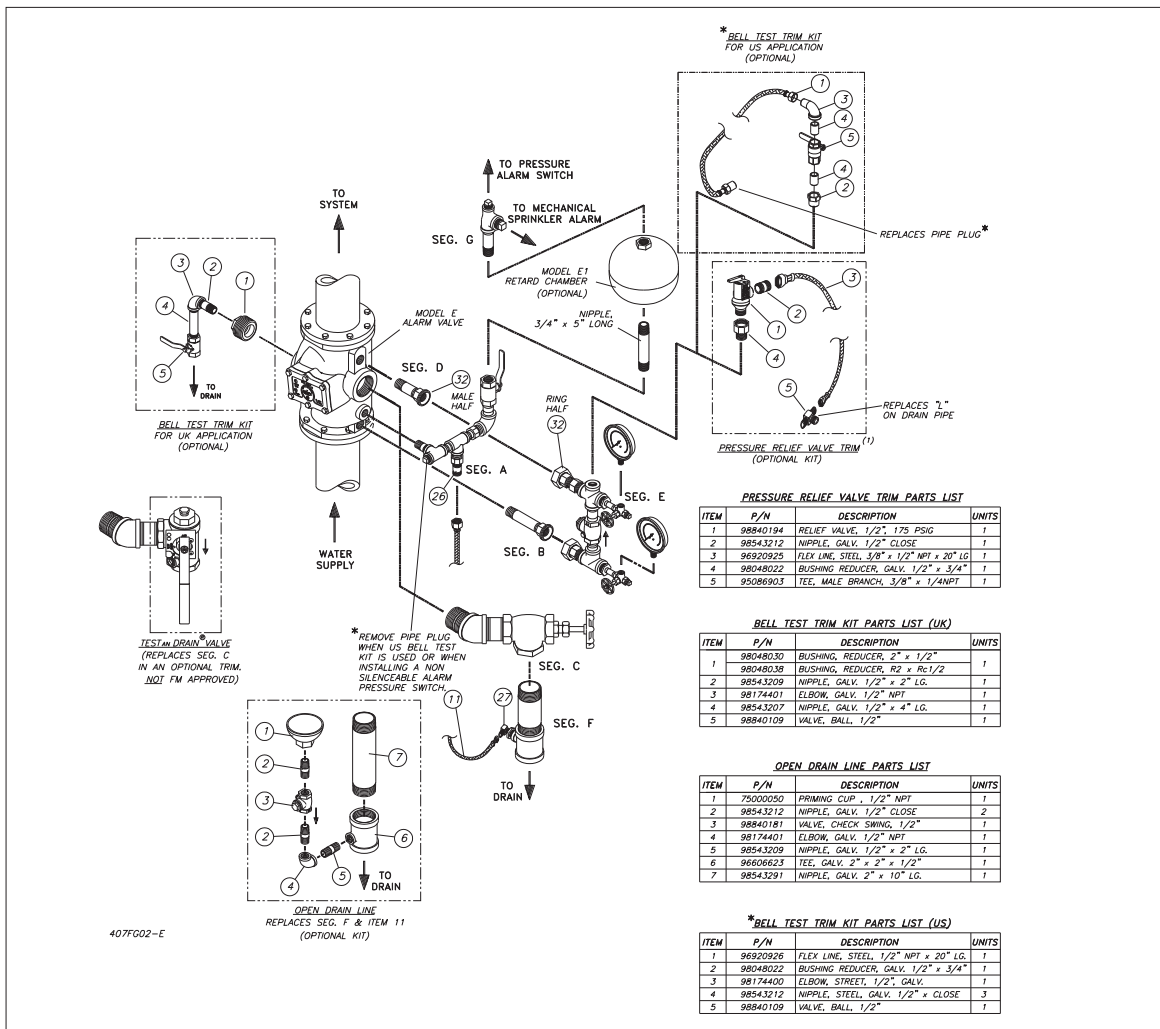

Fig. 2—Model E 8" Flanged Inlet and Outlet Alarm Valve Variable Pressure Open Drain Trim
The E3 trim sets for the Reliable Model E Alarm Valve (Figure 2) are arranged for rapid, easy and compact attachment, and serves as connection points to Reliable Alarm and other devices. The trim also serves as means for testing the operation of the alarm devices without causing the system to operate.
Optional Drain Line Kit required (Figs. 2 & 3 & 5)
Pressure relief trim kit is optional in Model E-3 Variable Pressure Trim Sets as illustrated in Figure 2.
• Variable Pressure Vertical Installation (Figure 2)
- **Constant Pressure Vertical Installation (Figs. 2 & 3 & 7)**